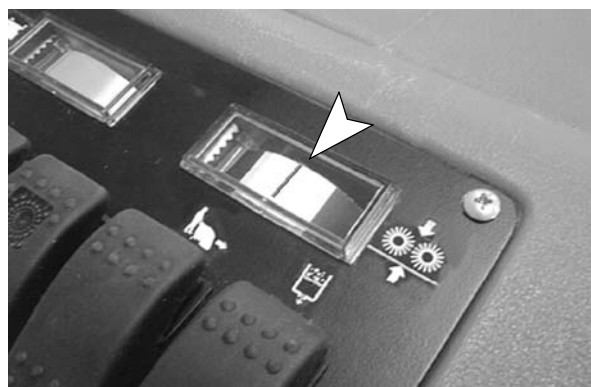

FIG. 17
- View brush pressure meter while operating. For optimum results, meter should read in the center of green zone (Figure 17). If brush pressure adjustment is necessary, see ADJUSTING BRUSH HEIGHT.